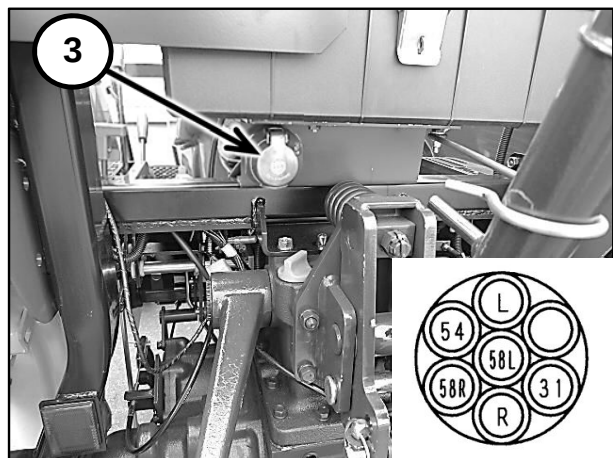

Figure 2-22
A standard seven pin socket (3) in Figure 2-22, is provided mounted on the left side of the tractor at the rear. With reference to the picture inset, the socket connections (as viewed from the rear of the tractor) are as follows;